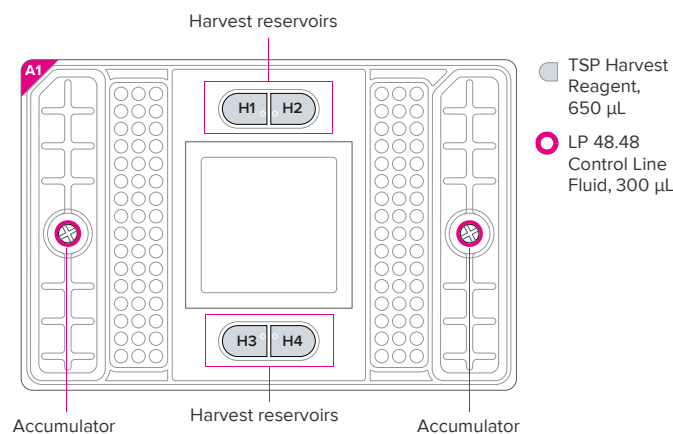

Figure 4. Priming map for the LP 48.48 IFC
- Inject LP 48.48 Control Line Fluid into each accumulator on the IFC (see Figure 4).
- Place the IFC on a flat surface and pipet 650 µL of TSP Harvest Reagent into each of the H1, H2, H3, and H4 harvest reservoirs (see Figure 4).